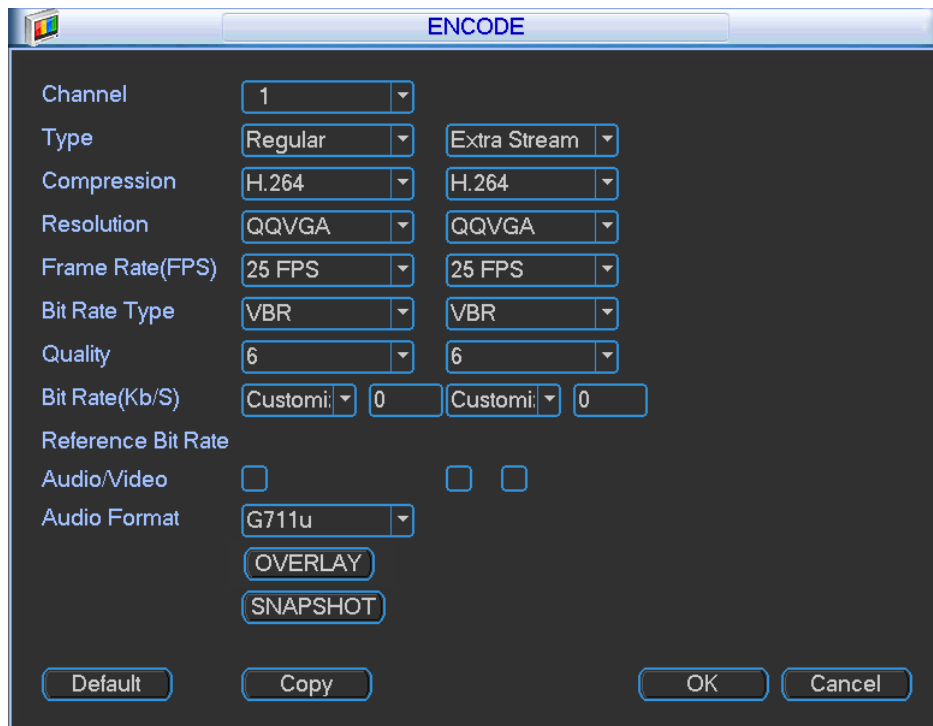
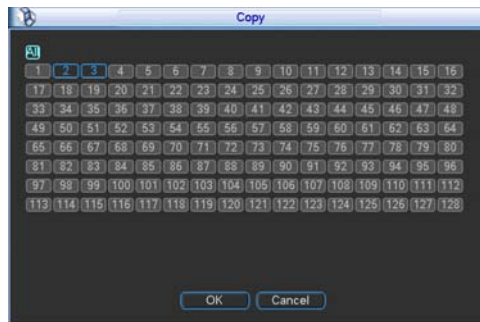
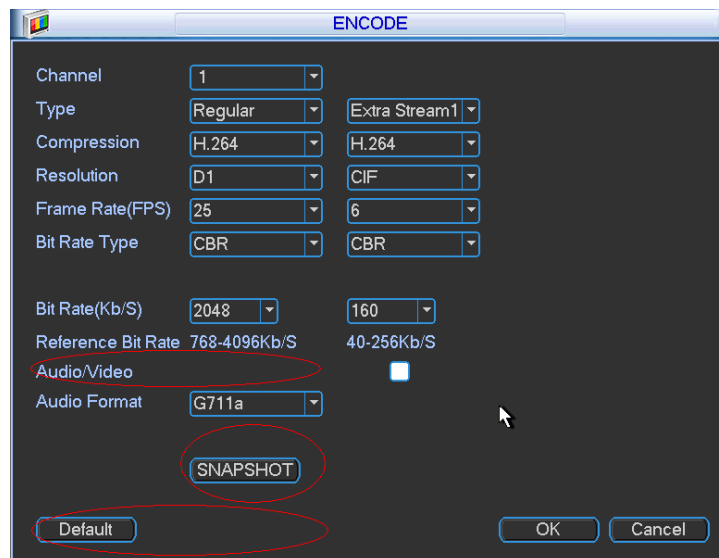

Figure 3-25
Figure 3-28
Figure 3-29
Encode setting includes the following items. See Figure 3-25.
- Copy: **Before the Copy operation, please make sure you selected channel supports current copy contents.** After you complete the setup, you can click Copy button to copy current setup to other channel(s). You can see an interface is shown as in Figure 3-28 (The figure here is based on the 128-channel series product.). You can see current channel number is grey. Please check the number to select the channel or you can check the box ALL. Please click the OK button in Figure 3-28 and Figure 3-25 respectively to complete the setup. Please note, once you check the All box, you set same encode setup for all channels. Audio/video enable box, overlay button and the copy button is shield. See Figure 3-29.